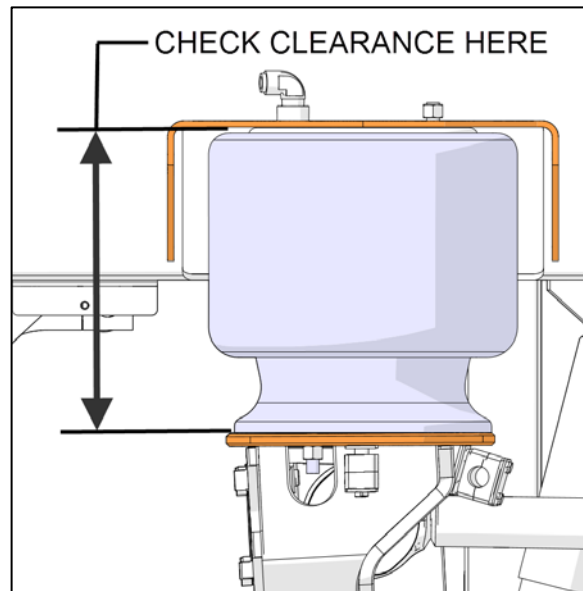

FIGURE 13
22. Adjust the height of the vehicle to get the clearance shown in Figure 13 at a value of $12 \pm \frac{1}{4}$ " (305 ± 6 mm).